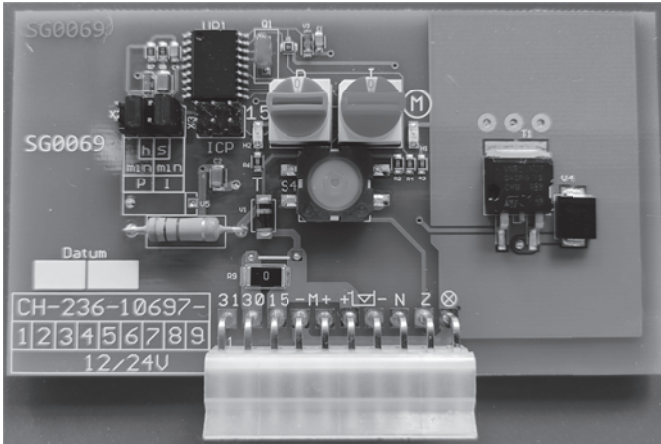

Fig. 1 - Printed circuit board
- The printed circuit board automatically controls the sequence of the pause and operating times of the model P300 central lubrication pump as a function of the vehicle or machine working hours t_B (Fig. 1).